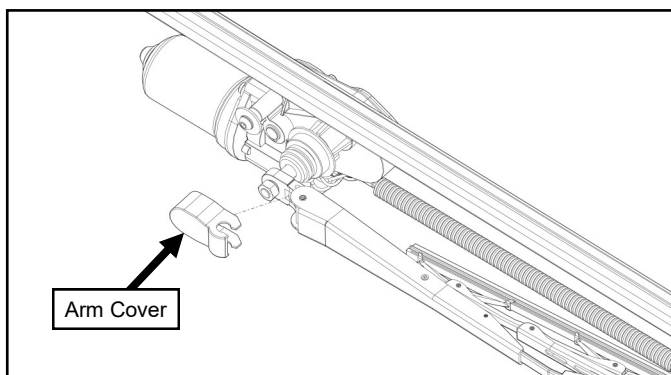

Fig. 1.16 (Install Wiper Arm Cover)
1.16 Per figure 1.16, install cover of the mounting end of the wiper arm.